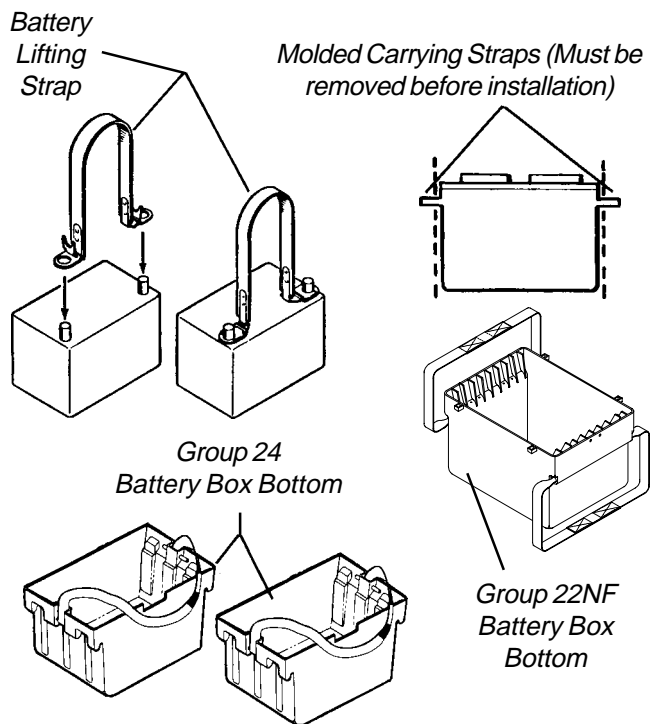

FIGURE 1 - INSTALLING/REMOVING BATTERIES INTO/FROM BATTERY BOXES
INSTALLING/REMOVING BATTERIES INTO/FROM BATTERY BOXES (FIGURE 1)
2. Secure battery lifting strap to battery terminal(s)/post(s) (FIGURE 1).